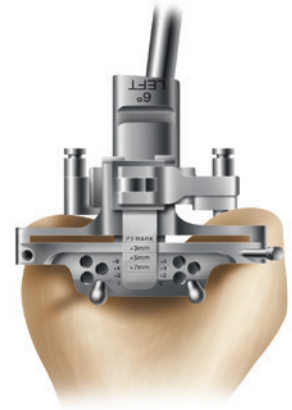

Figure 8
- 1 Using non-headed SPEED PIN[®], pin the distal femoral cutting block to the anterior femur using the holes marked '0'. Once adequate distal femoral resection is noted, an additional headed or non-headed SPEED PIN should be placed obliquely to provide additional stability (Figure 8).